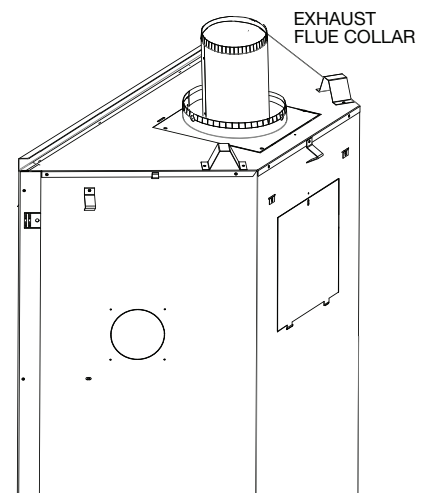

Fig. 3
- G.** From inside the firebox, install the 4" (101.6mm) exhaust collar with gasket up through the top of the firebox, and secure with the 4 hex head 3/4" black screws supplied in the manual baggie (**Fig. 3**).